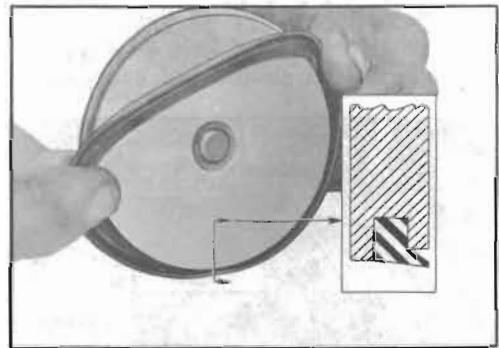

Figure 5-62—Installation of Servo Piston Seal
4. Worn or damaged piston seals should be replaced. When a new seal is installed on a piston make sure that the lip fits over the smaller diameter land. See figure 5-62.